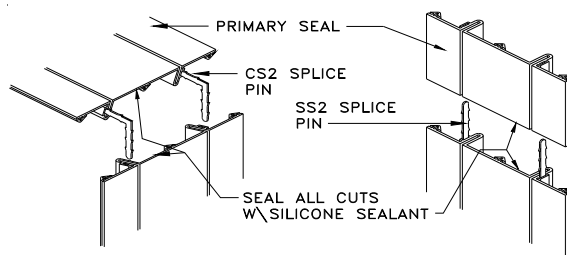

Figure 21
STEP 28. When typical splicing methods are not possible for Silicone Face Seals, Optional Splice Pins (CS2/SS2) are provided to align mating sections of the Silicone Face Seal, see Figure 21. Splice Pins are never provided in conjunction with Santoprene Face Seals. Select a splice pin.